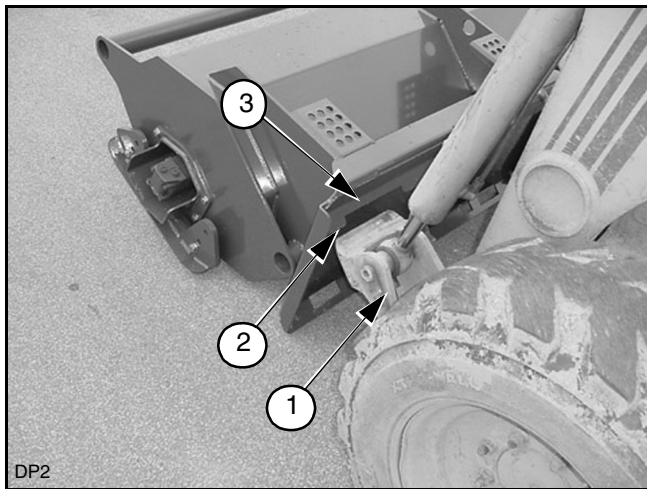

Figure 2.
Pull forward to the attachment as shown in Figure 2. Make sure the outside of the skid steer attach (1) is aligned with the inside of the tiller attach (2). Continue to pull forward until the skid steer attach makes contact with the tiller attach. Raise the skid steer arms until the top of the skid steer attach contacts the top latch bar (3) on the tiller.